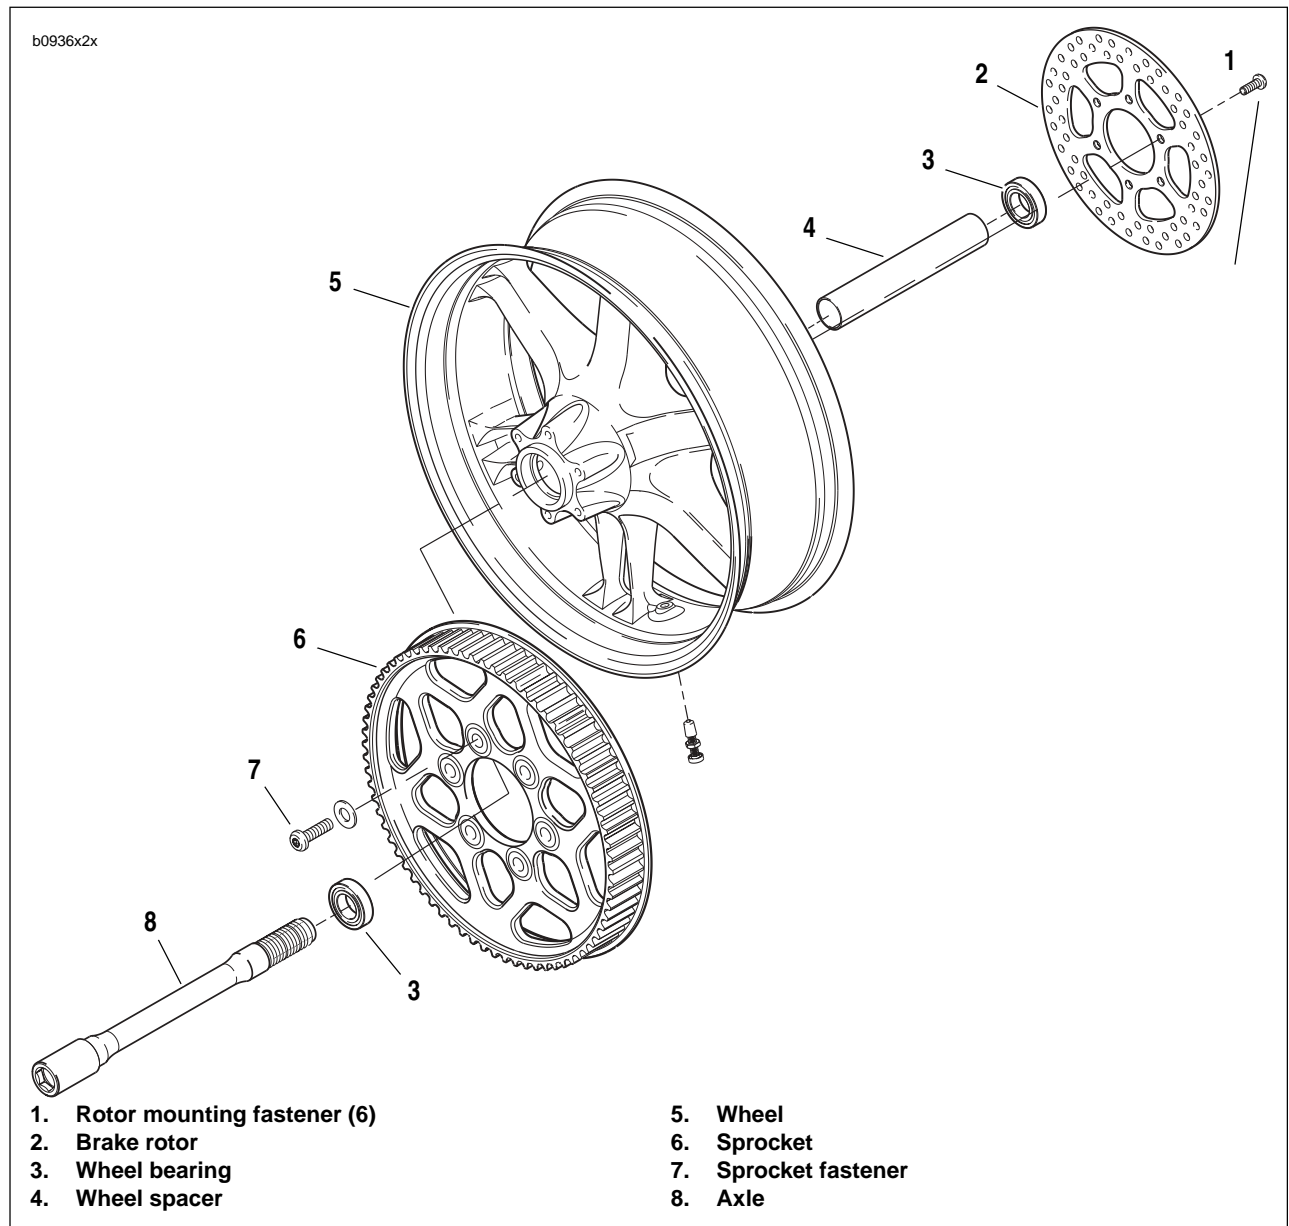

Figure 2-23. Rear Wheel Assembly
- a. See Figure 2-23. Remove and discard rotor mounting fasteners (1).
1. See Figure 2-23. Install wheel bearing (3) on rotor side of motorcycle.
2. Install rear wheel spacer (4).
3. Install wheel bearing (3) on sprocket side of motorcycle. Remove rear wheel bearing. The procedure for the rear wheel bearing installation is the same as front wheel bearing installation. See Bearing Installation in 2.5 FRONT WHEEL.
- a. Position sprocket (6) on wheel (5) keeping lip of sprocket facing the inside.
- b. Install **new** sprocket fasteners (7) and washers tightening to 35-37 ft-lbs (48-50 Nm).
5. See Figure 2-23. Install rear rotor (2).
- a. Position rear brake rotor (2) on wheel (5).
- b. Install brake rotor (2) with **new** rotor mounting fasteners (1) and tighten to 25-27 ft-lbs (34-37 Nm).
1. See Figure 2-23. Install the rear axle by threading partially into swingarm.